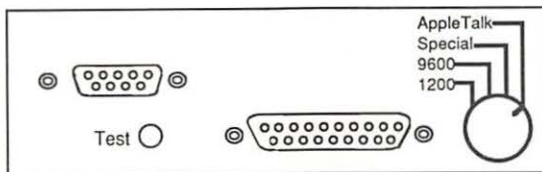

FIGURE 1-9: REAR (I/O) CONNECTOR PLATE
1. The TEST light on the rear (I/O) connector plate (Figure 1-9) comes on continuously (either steady or blinking) if the LaserWriter I/O board is malfunctioning. (If the board is functioning correctly, this light will blink once and then go out when the printer is turned on.)